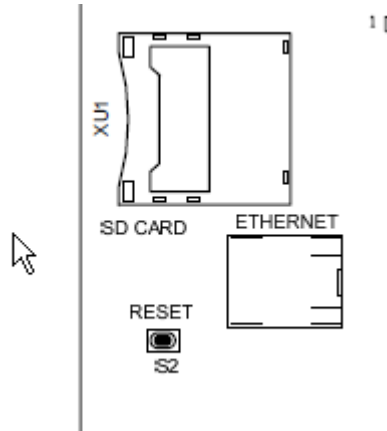

Figure 84: Electronic reset button S2
2. Locate the Reset button, directly below the Ethernet plug connector on the left-hand side of the board (Figure 84).
4. Locate the reset button on the upper left-hand side of the board (Figure 84).